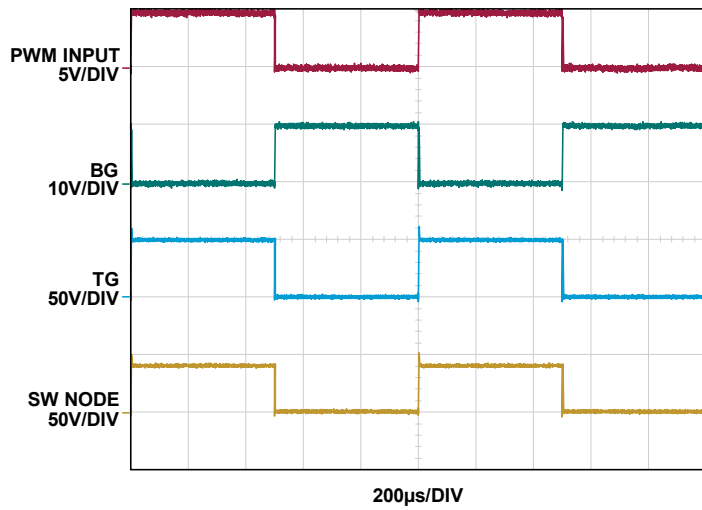

Figure 2. Test Results
7. See Figure 2 for expected results with: